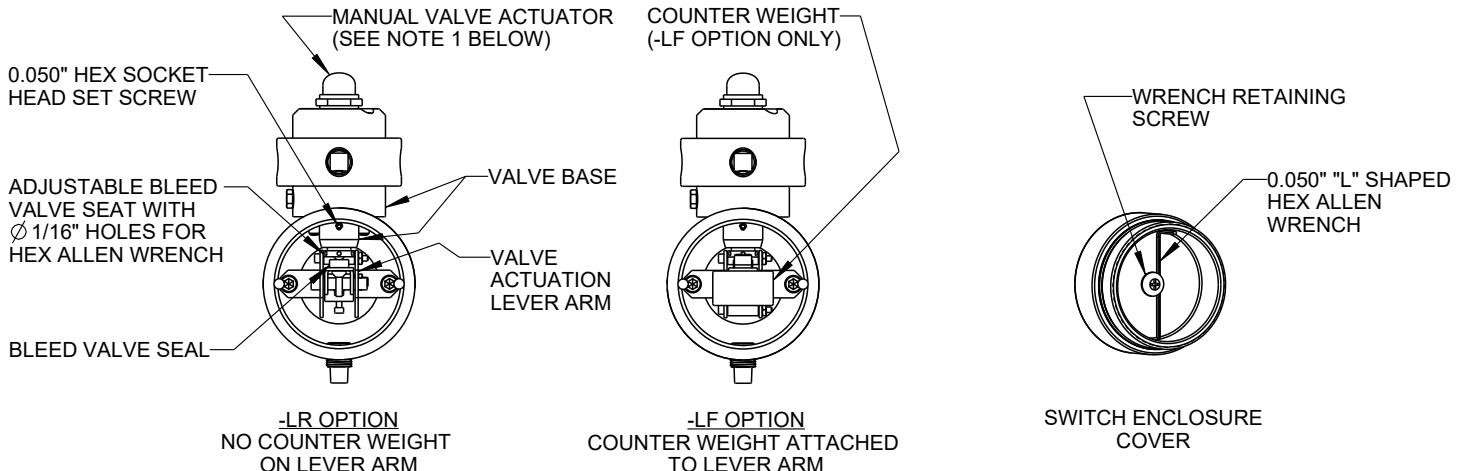

FIGURE 2
- a. Verify that the float is in the "down" position (liquid level below the switch centerline). The valve should be closed and the bleed valve not bleeding any air/gas. See -LR OPTION in Figure 2.
- a. Verify that the float is in the "up" position (liquid level above the switch centerline). The valve should be closed and the bleed valve not bleeding any air/gas. See -LF OPTION in Figure 2.
- Make sure the Switch Float is in the "Valve Closed" position. On the KPFS-LR model, the Switch Float will need to be in the down position. On the KPFS-LF model, the Switch Float will need to be in the up position. You will know which model you have by the model number on the Switch Enclosure Cover name tag. In addition to this, the KPFS-LF has a counter weight attached to the Lever Arm and the KPFS-LR does not. See illustrations in Figure 2.